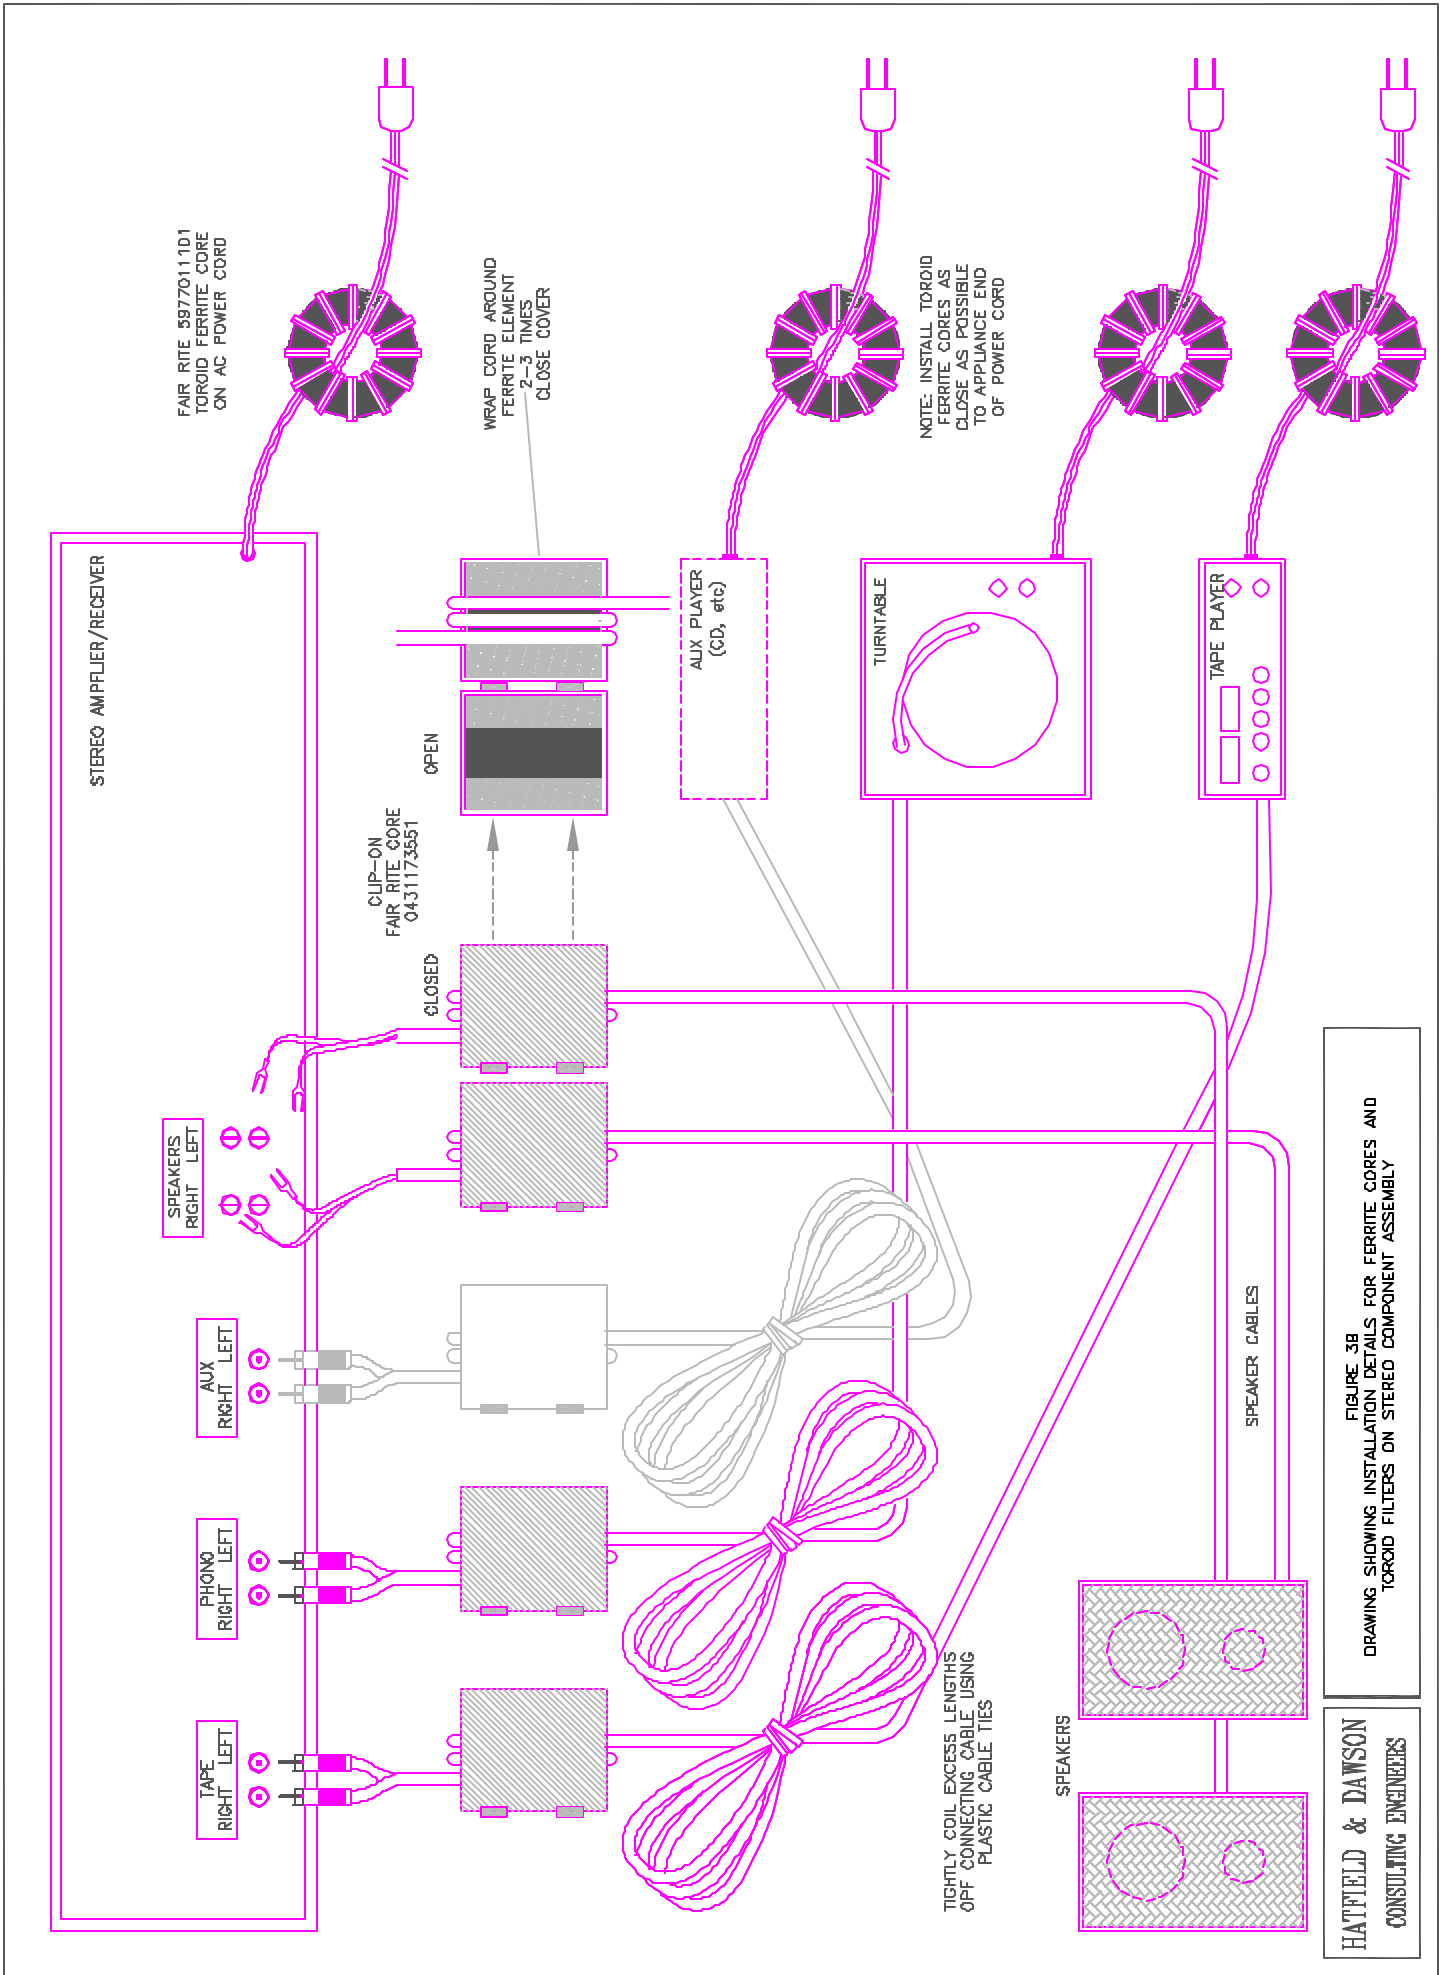

FIGURE 3B
- d. After the cores are installed on the cables, coil the excess lengths of the connecting cables as shown in Figure 3A or Figure 3B and use a plastic cable tie (available at Radio Shack and at many hardware stores) to hold the coiled cable together.
- a. Wind 2 or 3 windings around one side of the open clip-on ferrite core, as shown in Figure 3A or Figure 3B, using the slot running through the center of one side of the core as a “trough” to hold the cables.
- c. After the cores are installed on the cables, coil the excess lengths of the connecting cables as shown in Figure 3A or Figure 3B and use a plastic cable tie (available at Radio Shack and at many hardware stores) to hold the coiled cable together.